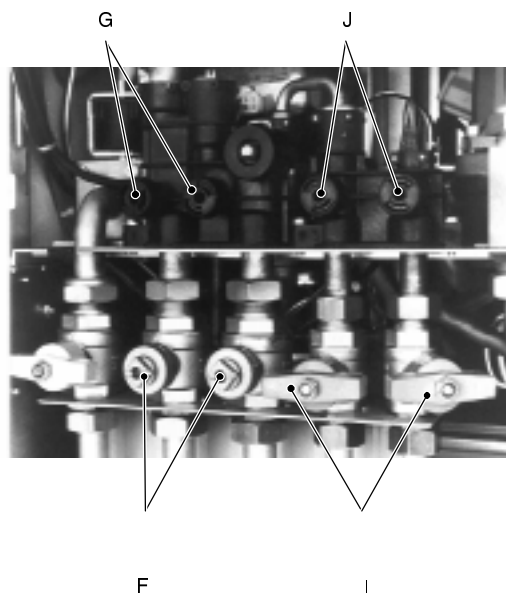

fig. 11
- 2 Close the c/h circuit isolation valves *F* (fig. 11);
- 2 Close the d.h.w. circuit cut-off valves *I* (fig. 11);